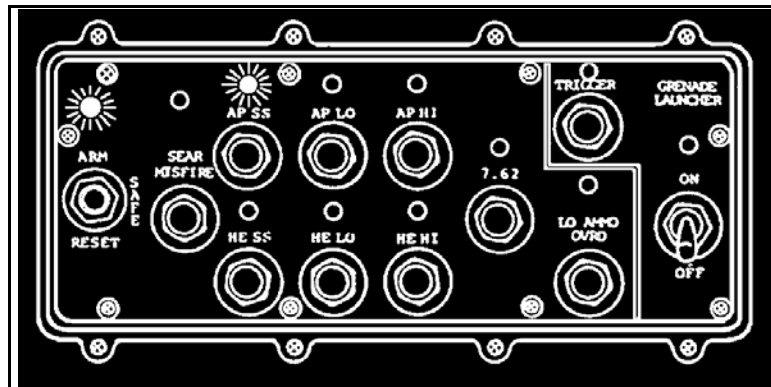

Figure 4. ARM-SAFE-RESET switch and indicator light.
f. Move the ARM-SAFE-RESET switch to ARM (Figure 4).